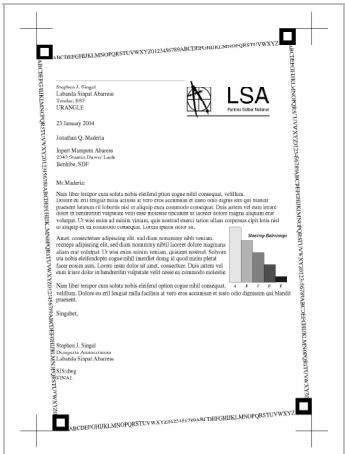

Figure 1 — ISO/IEC 19752 monochrome test page; for color suite, see appendix.
**Standardized Test Page** — A single page (see Figure 1) is used for testing. Area coverage on the page is just below 5 %. Pages are printed in a semi-continuous print mode, stopping only for paper replenishment.